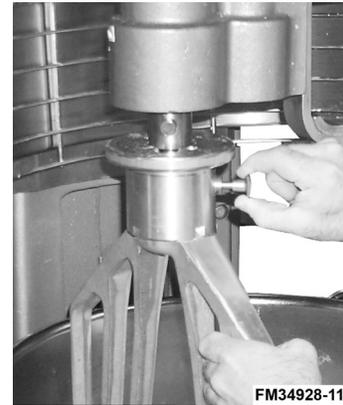

Fig. 10
3. Hold the agitator and pull the plunger pin of the agitator out (Fig. 10).
3. Hold the agitator and pull the plunger of the agitator out (Fig. 10). Slide the agitator down off the agitator shaft.